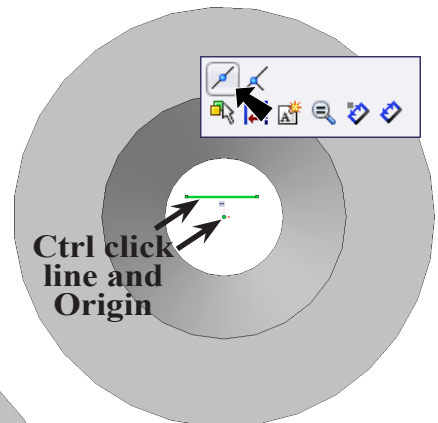
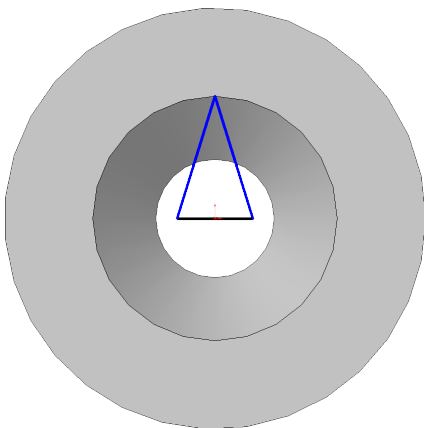

Fig. 13
Fig. 14
Step 6. **Ctrl click line and Origin** to select both. **Release Ctrl key** and click **Make Midpoint**  on the Content menu, **Fig. 13**.
Step 7. Click **Line**  (L) on the Sketch toolbar.
Step 8. Draw **two lines** as shown in **Fig. 14**.